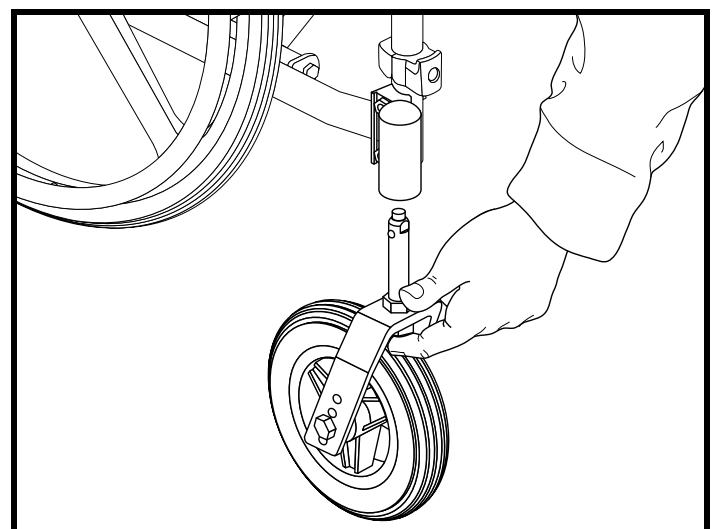

Figure 42. Quick-release Caster Removal
1. Press the quick-release button and pull the caster wheel off. See figure 42.